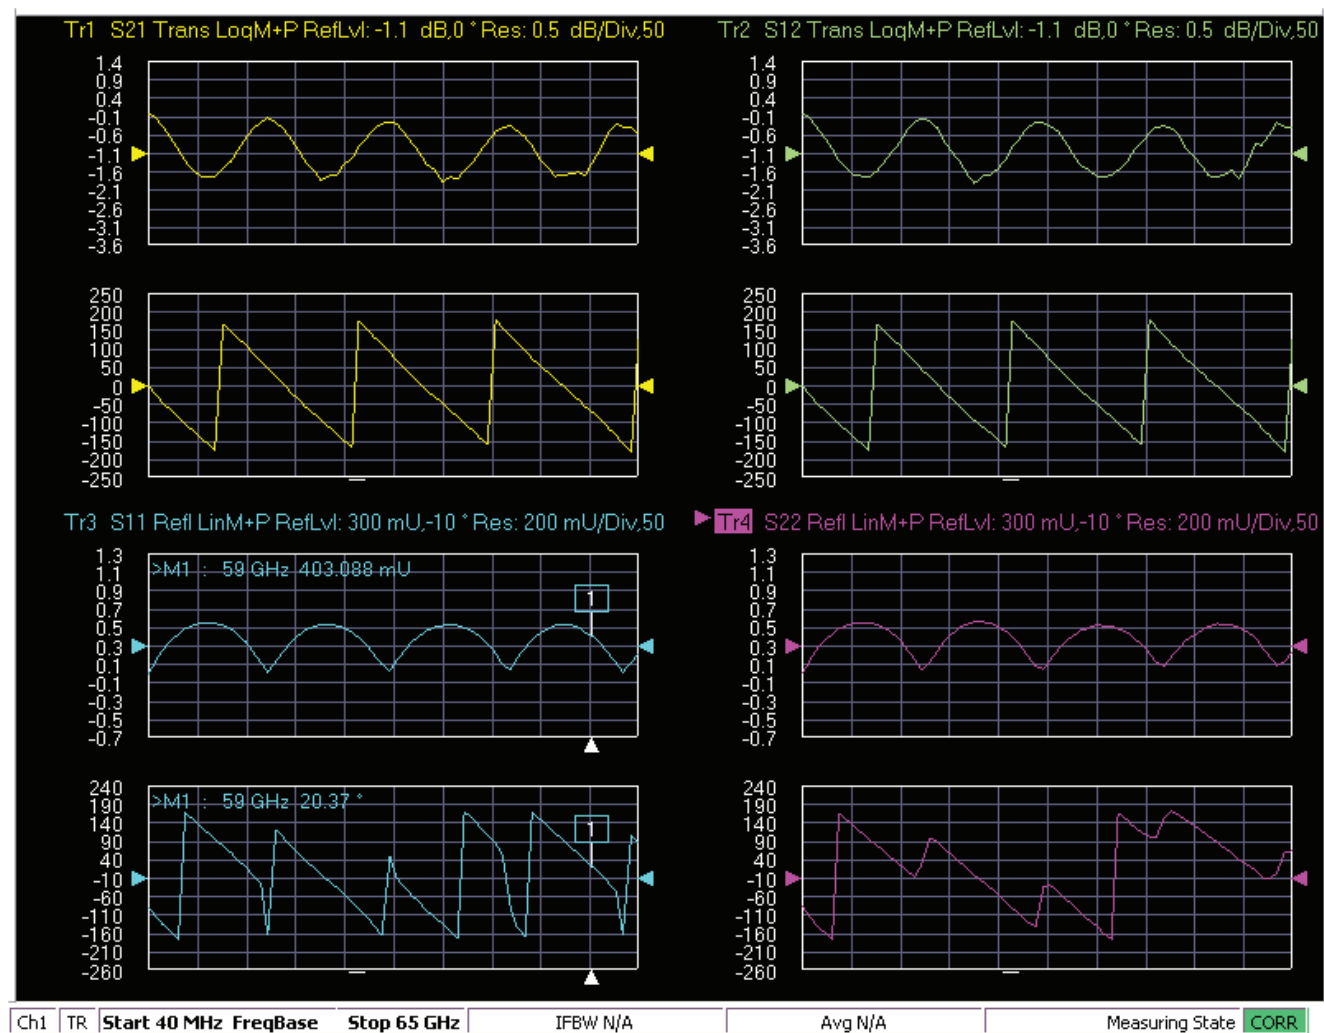

Figure 5-53. MS4640A/B Series VNA, Typical Mismatched Thru Data in Low Band
7. When the test completes, the program returns to the main menu described Section 5-9 “Application Interface – Main Menu Tab” on page 5-28, and the display should look similar to Figure 5-53. This is a typical display immediately after measuring the Mismatched Thru in the Low Band. Please note this is for reference only and that the actual data on the VNA display may not be identical.